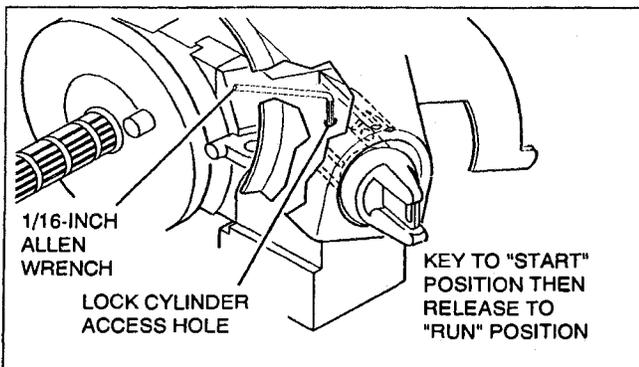

Figure 4 - Removing Lock Cylinder and Upper Shroud
5. Upper shroud (10) and steering column lock cylinder set (17).
- A. Key installed in lock cylinder (17) and in "RUN" position.
- B. Ensure sector in lock module assembly (15) is in "RUN" position. (See Figure 4)
- C. Lock cylinder (17) to upper shroud (10).
- D. Line up locking tab and positioning tab with slots in lock module assembly (15) and push cylinder (17) into position.